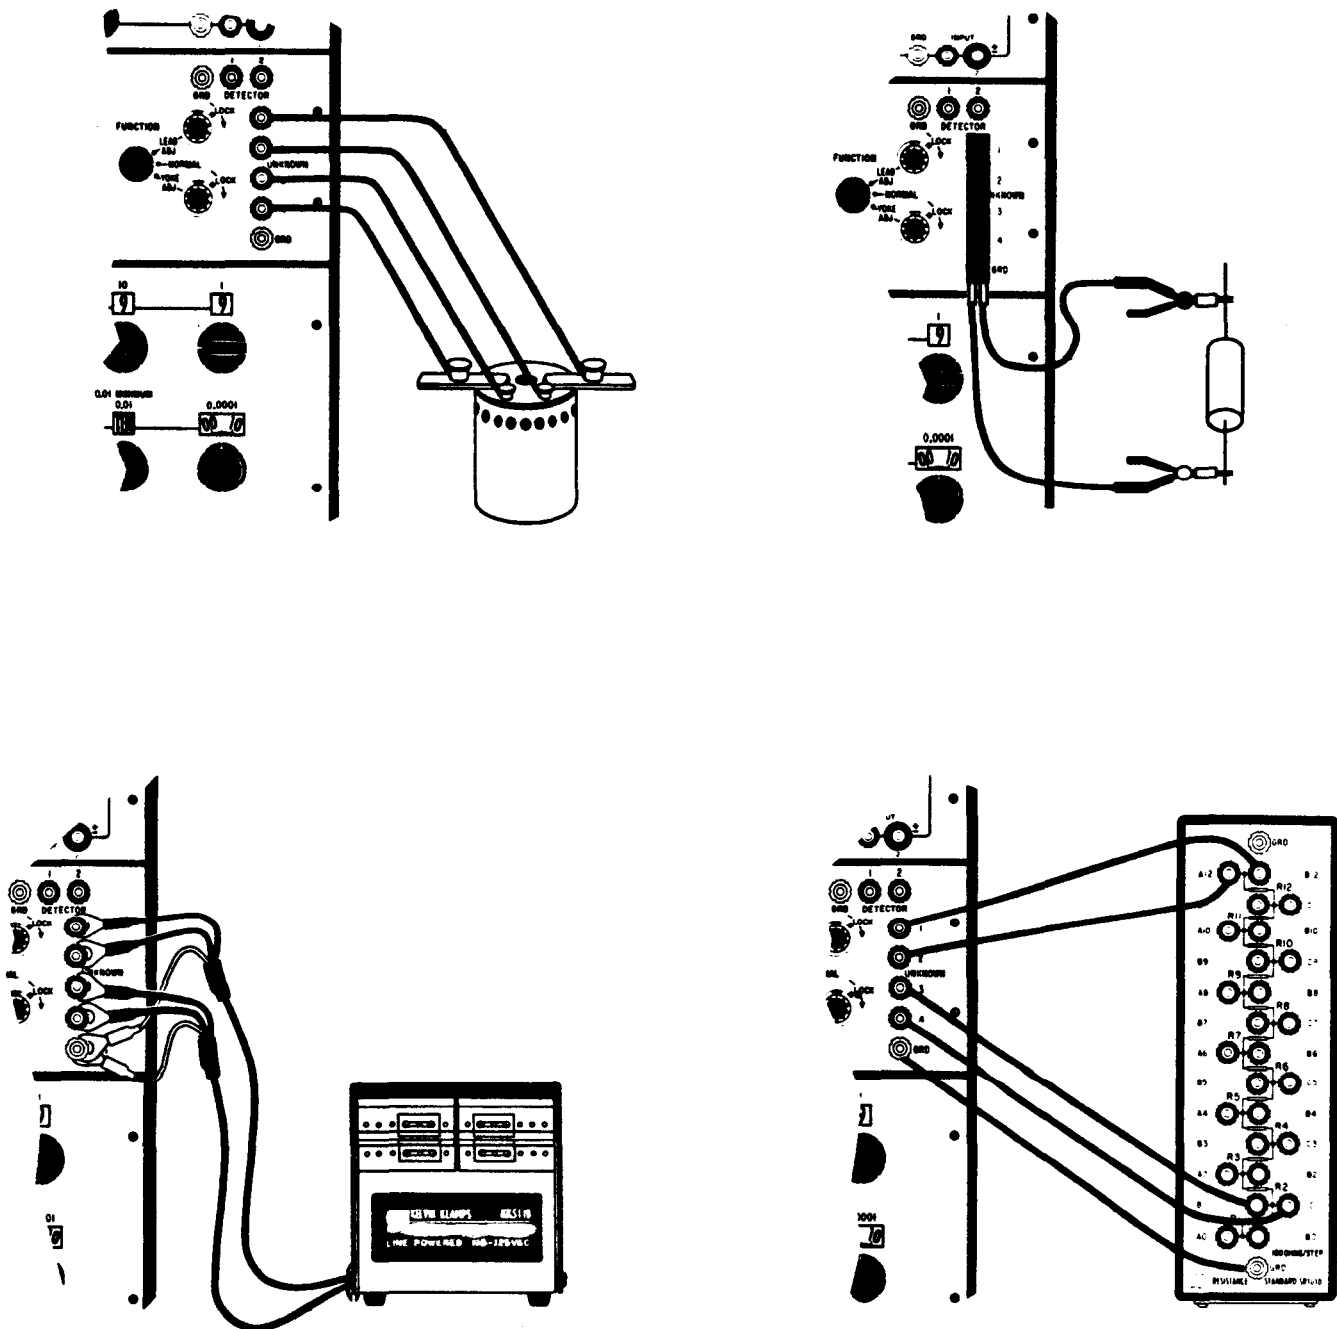

Figure 2-3. Connections to Unknown
2. Connect the unknown resistor to the UNKNOWN binding posts of the bridge (11). Use KELVIN KLIPS or KELVIN KLAMPS to make four-terminal connection to two-terminal devices. Use four separate wires to connect to four-terminal resistors (see Figure 2-3).
3. Set MULTIPLIER (15), GENERATOR POWER LIMIT (3) and GENERATOR RANGE (4) to settings indicated for nominal value of unknown resistor. Set DETECTOR RANGE (7) for sensitivity well below maximum given in the table, but still on scale.